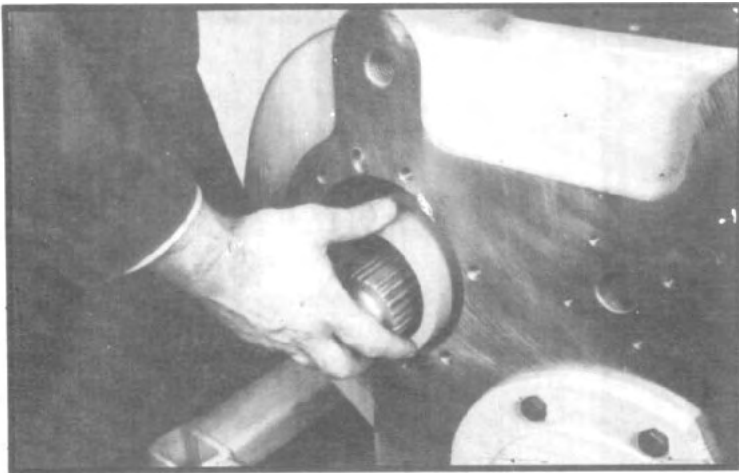

Fig. 90
4. Supporting the upper shaft, place the spacer tube over the shaft through the front bearing bore. (See fig. 90.)